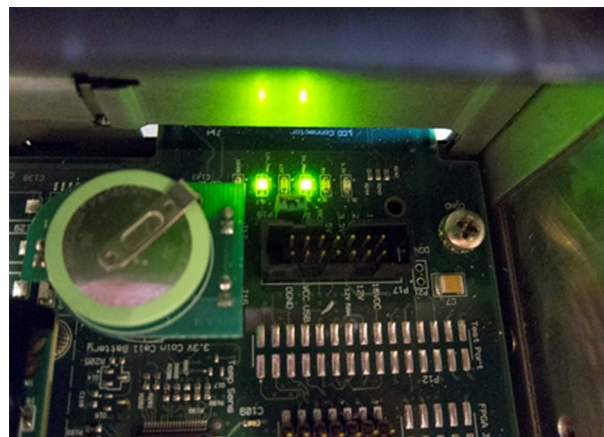

FIGURE 3-2
- i. The first two LEDs (12 Volts and 5 Volts) light up (see FIGURE 3-2).